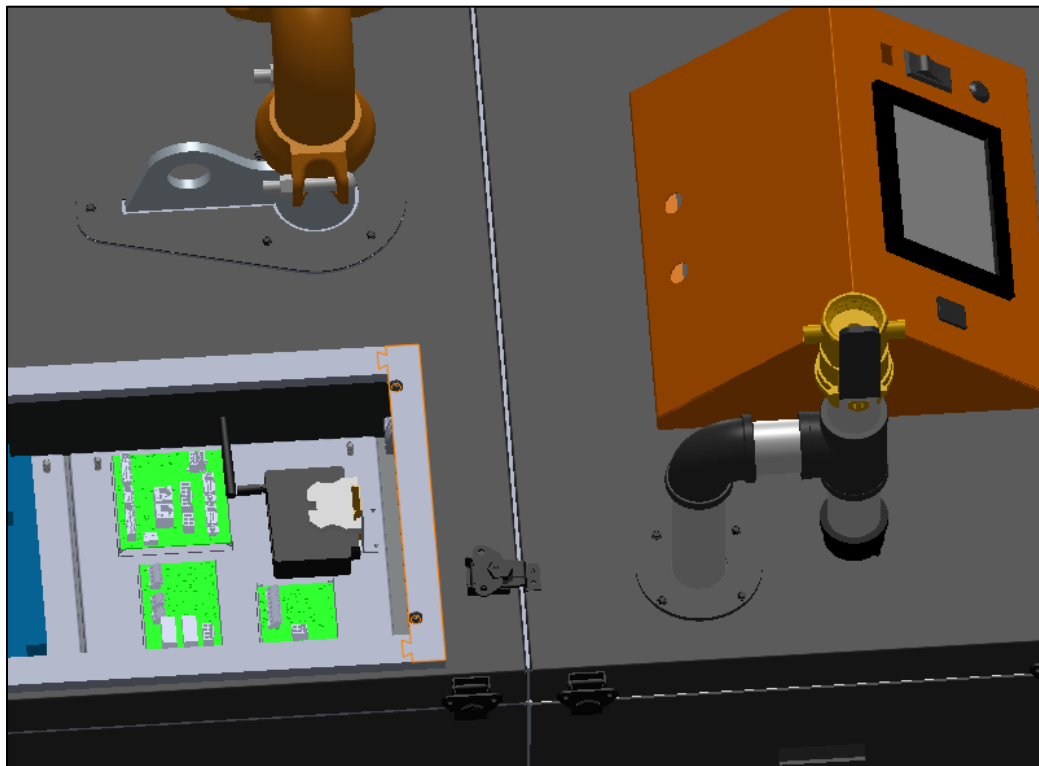

Figure 11-1: ProtoAir Mounting Location for AMP/BFIT 1500-4000, CTD 1500
- Use the DIN rail, mounting bracket, and end anchor block to mount the ProtoAir inside of the boiler next to PCB-06. See Figures 11-1 and 11-2 for boiler specific mounting location. Note – On AMP/BFIT 1000 & 1250 and CTD 1250 the ProtoAir should be mounted on the low voltage control panel located on the left side of the boiler.